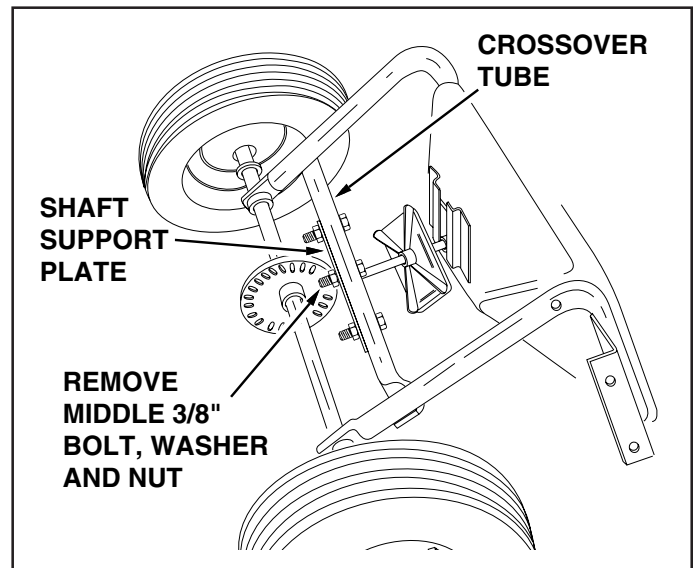

FIGURE 3
- 9. Remove the middle 3/8" hex bolt, flat washer and hex lock nut that fasten the shaft support plate to the crossover tube. **Do not loosen or remove the two outer bolts.** See figure 3.